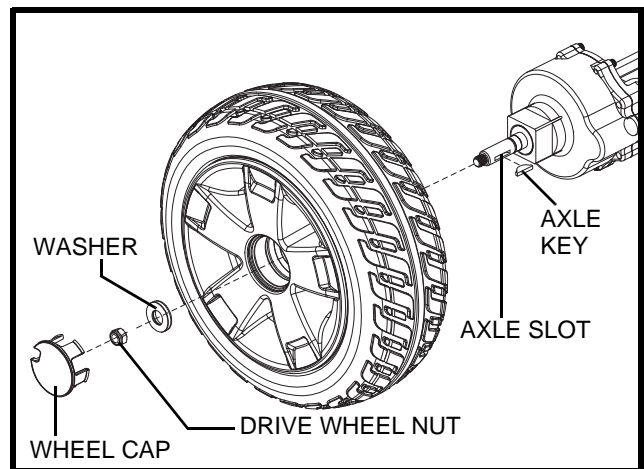

Figure 29. Solid Tyre Wheel Removal
3. Remove the wheel cap, drive wheel nut and washer from the axle. **See figure 29.**